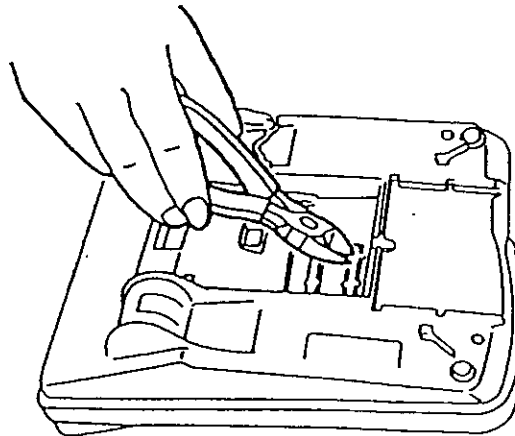

Figure 1-60 Removing the Knockouts to Install an ADA(1)-W(GG) Unit or ADA(2)-WA(GG) Unit
3. Remove the knockout (second from the top) on the bottom of the Multiline Terminal. (Refer to Figure 1-60 - Removing the Knockouts to Install an ADA(1)-W(GG) Unit or ADA(2)-WA(GG) Unit.)